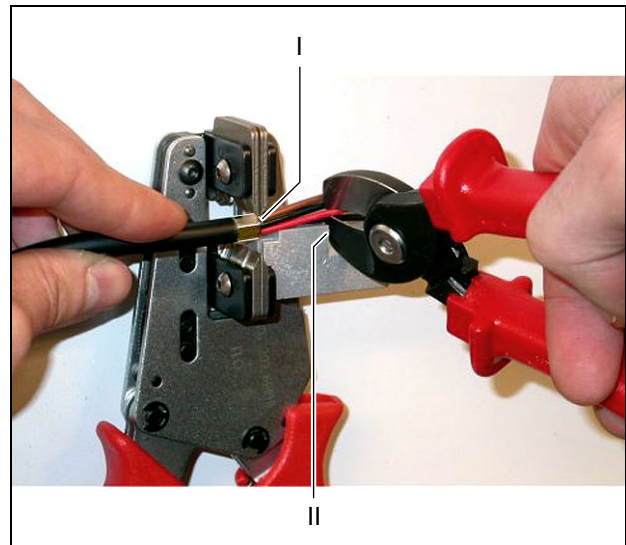

figure 45.10: Cutting a copper wire
- Hold the crimping bush in position I with the stripping tool. Cut the copper wires at position II (refer to figure 45.10) with the cable cutter (tool 2).